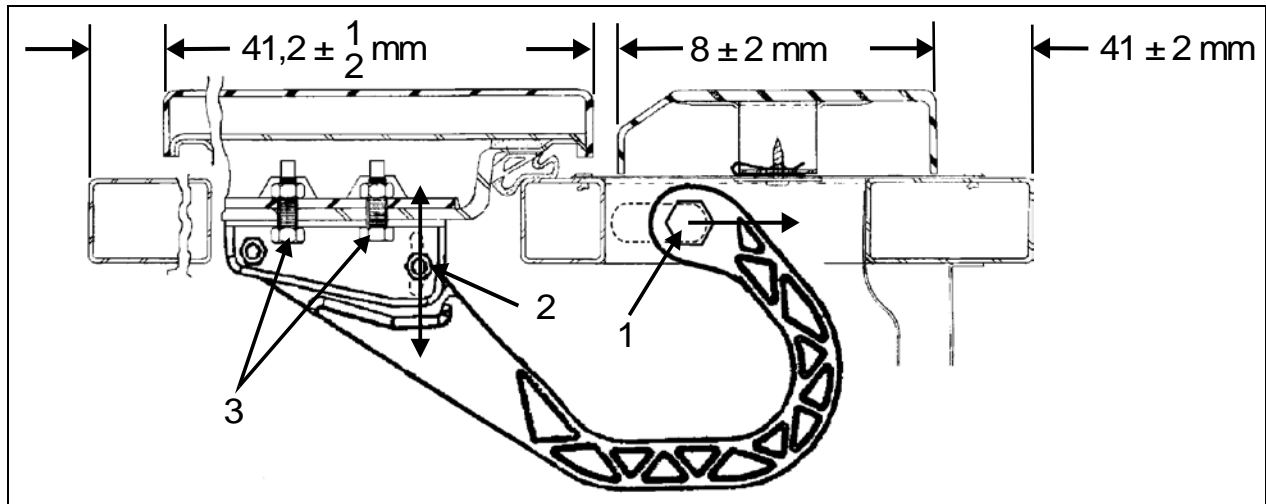

FIGURE 84: EVAPORATOR DOOR
2. Loosen nut (1, Figure 84).
4. Tighten nut (1, Figure 84).
5. Loosen nut (2, Figure 84). Hinge allows the door to be shifted "IN or OUT".
7. Loosen screws (3, Figure 84). Screws allow the door to be shifted "UP or DOWN".